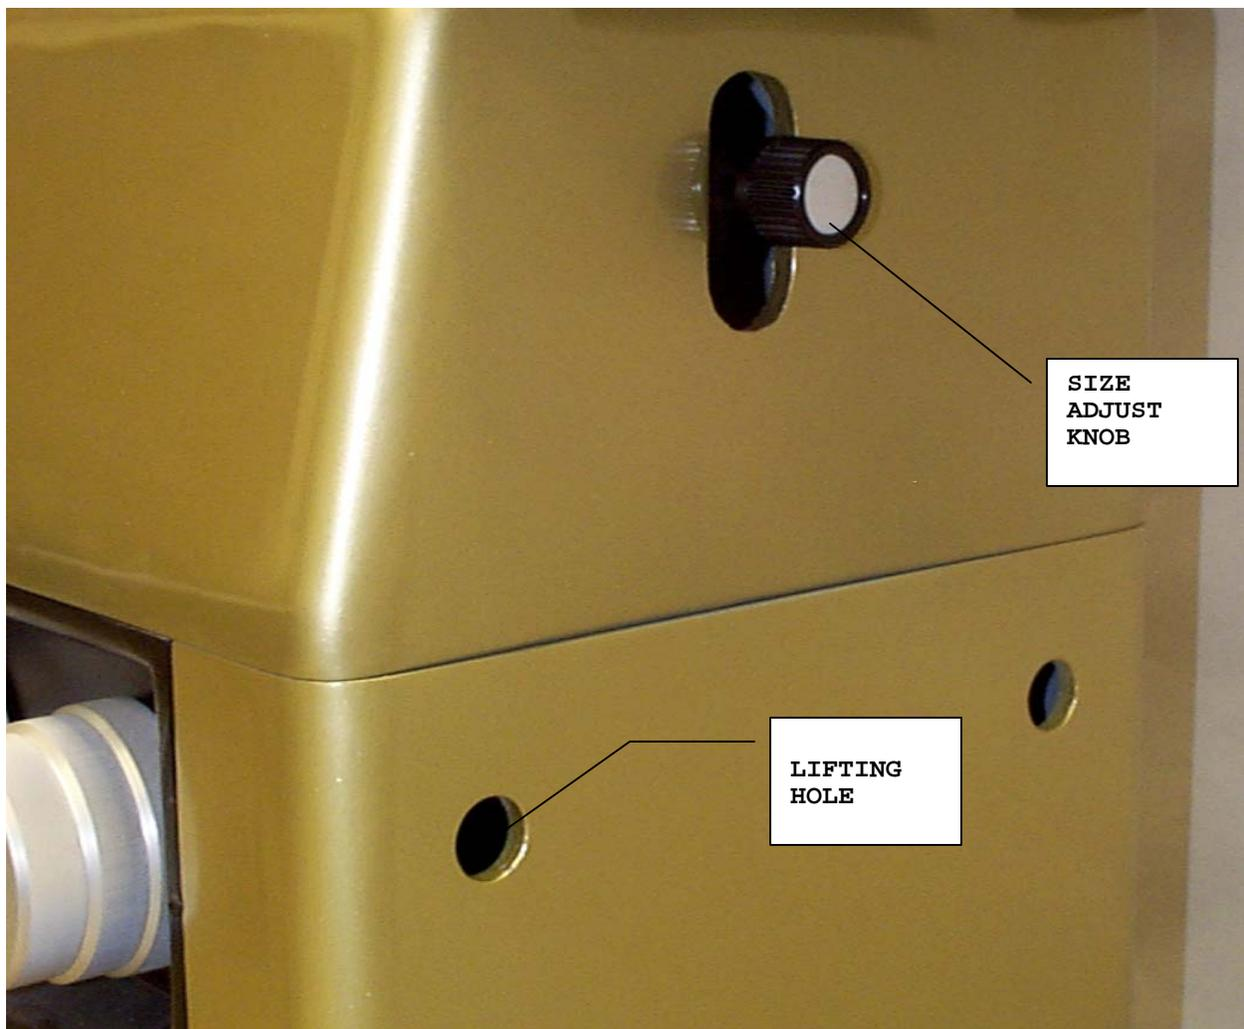

Figure 2 - Lifting Holes
1. Remove the (4) protective caps from the lifting holes located in the comparator base. (See Figure 2).
2. Insert the (2) supplied rigging bars through the lifting holes provided and lift the unit from the shipping skid.